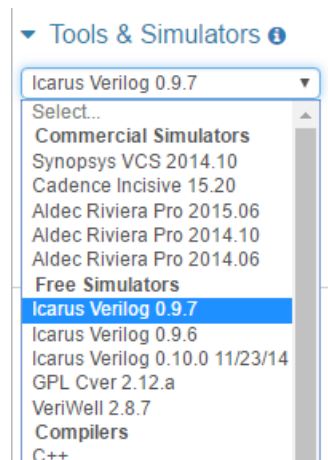

Figure 1.7 Drop down menu used to choose the simulation tool
- Once all the given code has been entered and completed, select Icarus Verilog as the simulator tool (Figure 1.7).